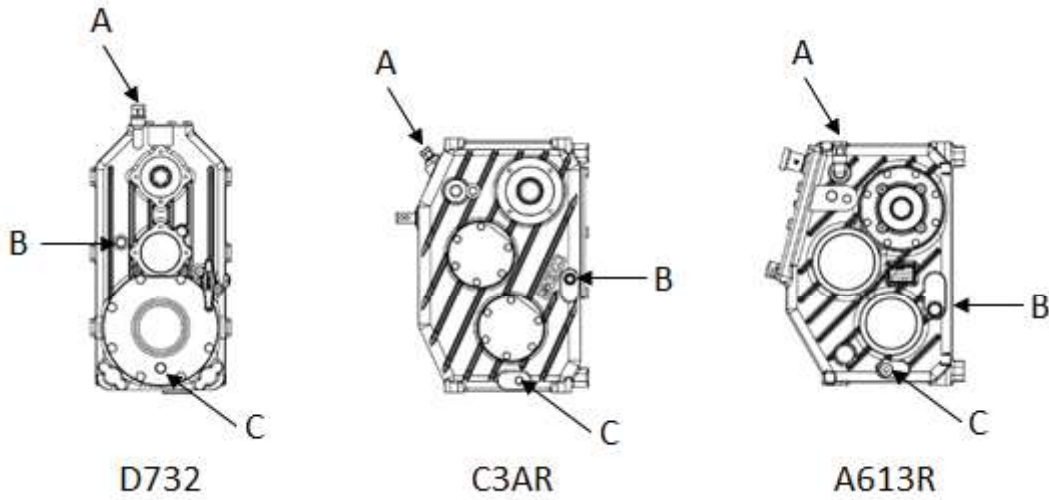

Figure 55 — D732 (A), C3AR (B) and A613R (C) Speed Reducers
The gearbox oil level is good if the oil reaches the cap in the middle of the gearbox (Figure 55, B).
2. Unscrew the plugs (Figure 55, A and B).
3. Pour oil into the opening (Figure 55, A) until it comes out the hole (Figure 55, B).